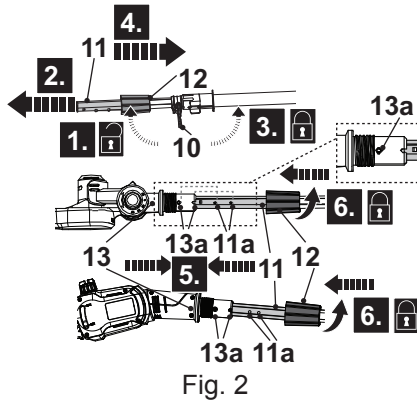

Fig. 2
1. Loosen the locking lever (10) (Fig. 2, step 1) and pull out the pole extension (11) (Fig. 2, step 2), then fasten the locking lever (10) (Fig. 2, step 3).
2. Move the locking sleeve (12) back onto the pole extension (11) (Fig. 2, step 4).
3. Choose one suitable cutting unit, then align the pole extension (11) with the pole support (13) and insert it. Make sure the pins (11a) snaps in the bores (13a) for reliable connection (Fig. 2, step 5).
4. Fit the locking sleeve (12) on the thread of pole support (13) and tighten the locking sleeve (12) clockwise to secure the connections (Fig. 2, step 6).